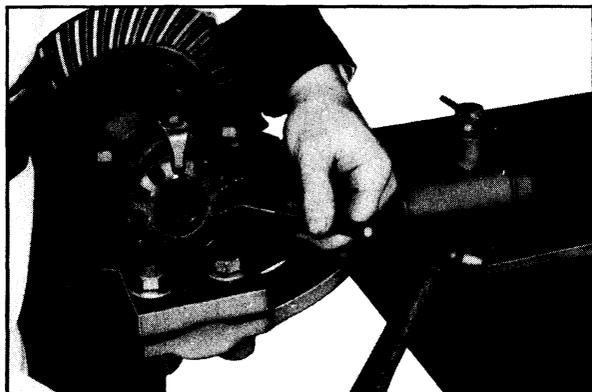

Fig. 6-14 Marking Adjusting Nut
4. Mark the adjusting nut, bearing cap, and carrier with two marks as shown in Fig. 6-14; also, mark the left side in the same manner using one mark. These marks will serve for location and adjusting purposes when rebuilding differential with the original gear set.